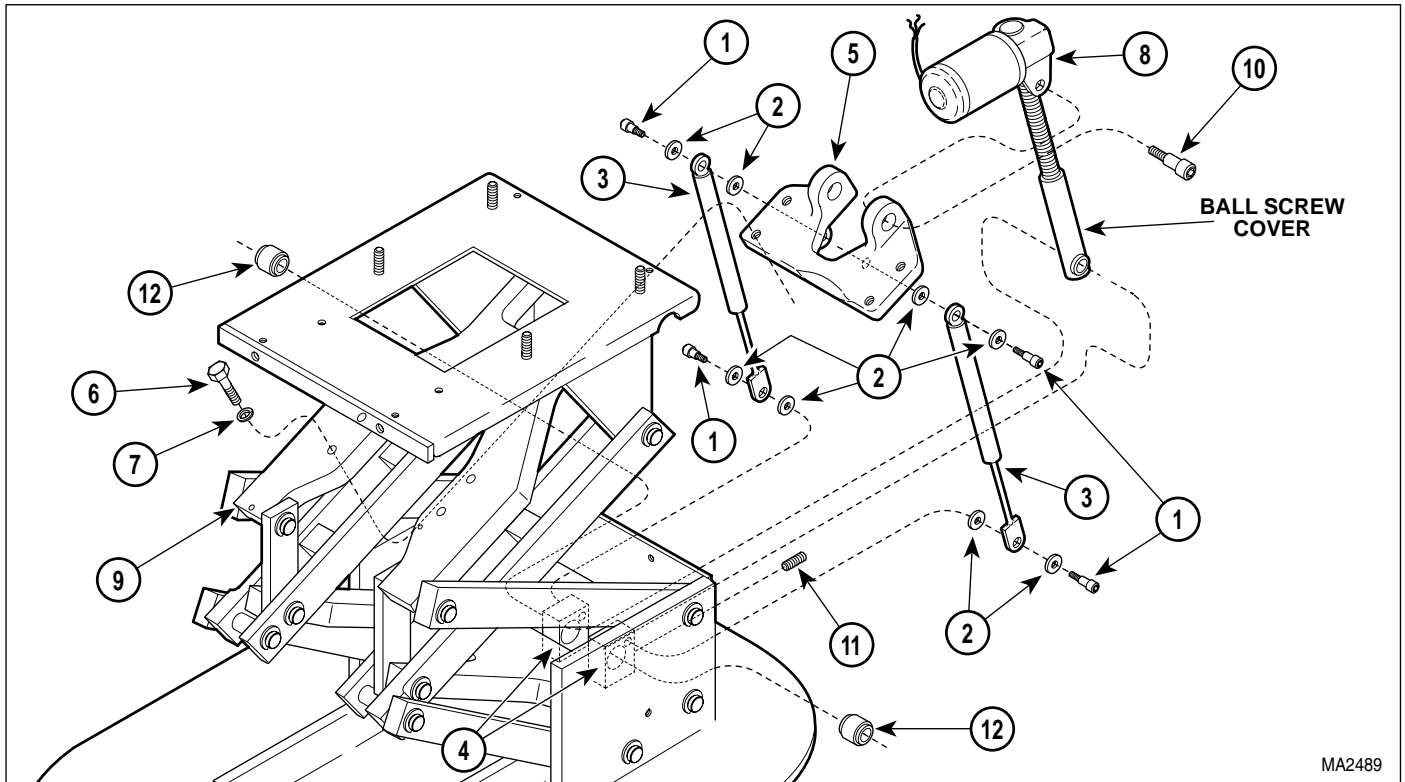

Figure 4-14. Base Actuator Assembly Removal / Installation
- (12) Remove two shoulder screws (1, Figure 4-14), four washers (2), and gas spring (3) from brackets (4 and 5). If applicable, repeat step for remaining gas spring.
(1) If removed, install one bearing (12, Figure 4-14) in each bracket (4) and secure with a setscrew (11).
(6) Install gas spring (3) on brackets (4 and 5) and secure with four washers (2) and two shoulder screws (1). If applicable, repeat step for remaining gas spring.